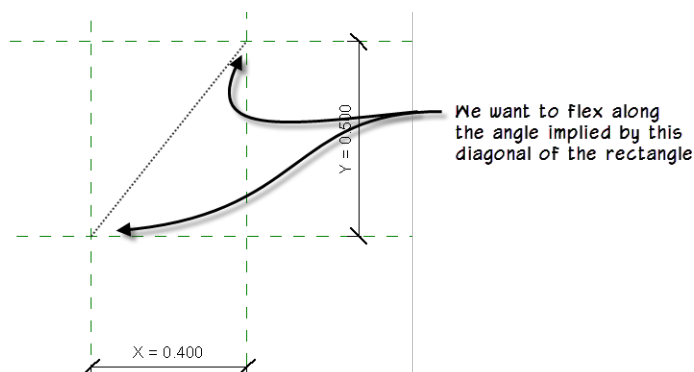

Figure 10—The angle we want is defined by the width and height of a rectangular reference plane rig
1. Create a new profile family and add reference planes and dimensions to make a flexible rectangle (see Figure 10).
Perhaps the simplest parameter we can create is a Text parameter. A text parameter creates an empty field that can receive any input (numbers, letters or any combination). The Multiline Text parameter is very similar except that it displays a dialog box when you edit its value. In this dialog, you can type in any text and even include returns. Simply press ENTER to start a new line within the dialog (see Figure 10).